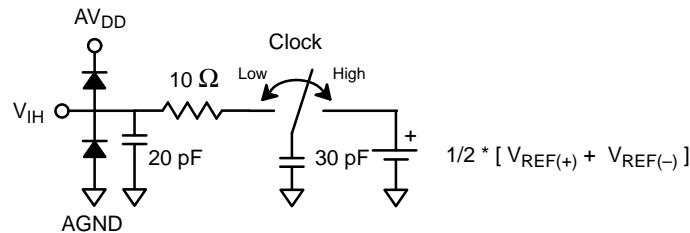

Figure 5. Analog Input Equivalent Circuit
- 4 See V_{IN} input equivalent circuit (*Figure 5.*). Switched capacitor analog input requires driver with low output resistance.